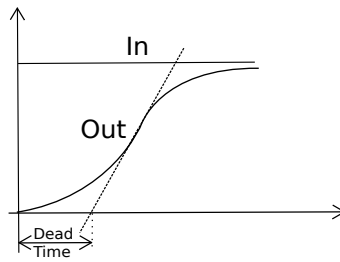

Figure 2: How to estimate dead time of a second-order system
- Lambda tuning requires us to measure the dead time of the process, this can be performed as illustrated in figure 2. First, find the steepest part of the step response curve. Second, draw a tangent to this part of the curve. Last, measure the time between the intersection of the tangent with the x-axis and the point of the step in the input signal. This time is an approximation of the dead time.